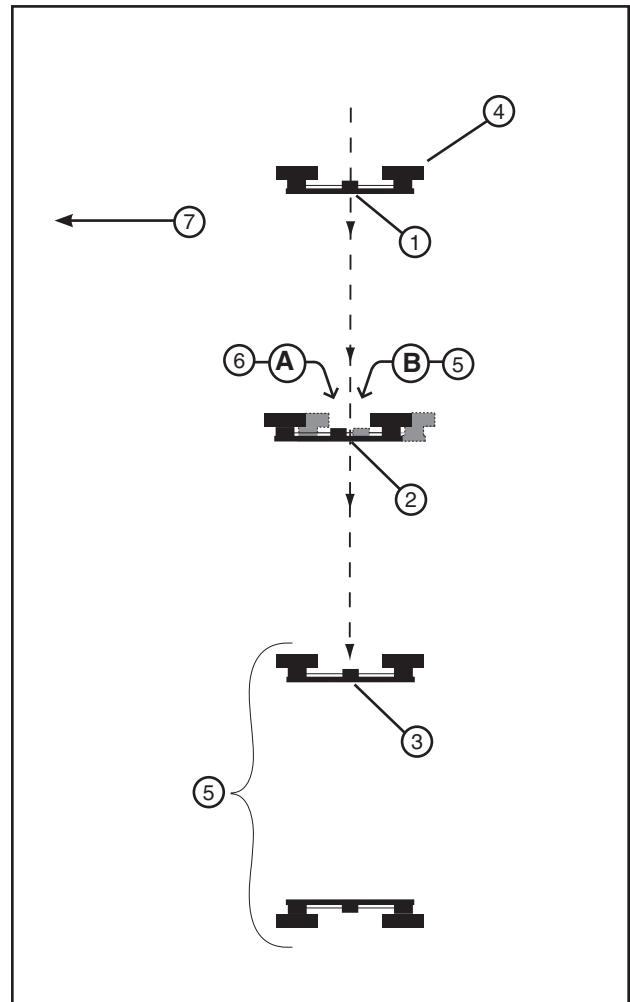

Figure 83-1 1. Tower 1 5. Start
2. Begin the alignment procedure from the end tower. Identify the first three towers as 1, 2, and 3. Use towers 1 and 3 to align tower 2. See figure 83-1.
3. Sight an imaginary center line between the center of the tower drive motor 1 to the center of the tower drive motor 3. See figure 83-1.
4. Observe the movement of the tower drive motor 2. It should start and stop equal distances from the imaginary center line. See figure 83-1.